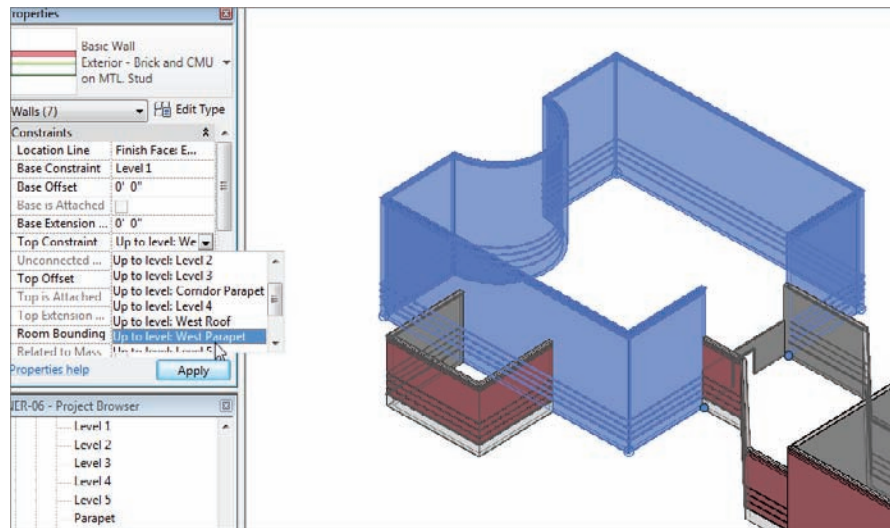

FIGURE 3.29 Selecting the west part of the building
2. In the 3D view, select the west side of the building, excluding the corridor and the three walls to the south, as shown in Figure 3.29. (You will need to press and hold the Ctrl key for multiple selections.)